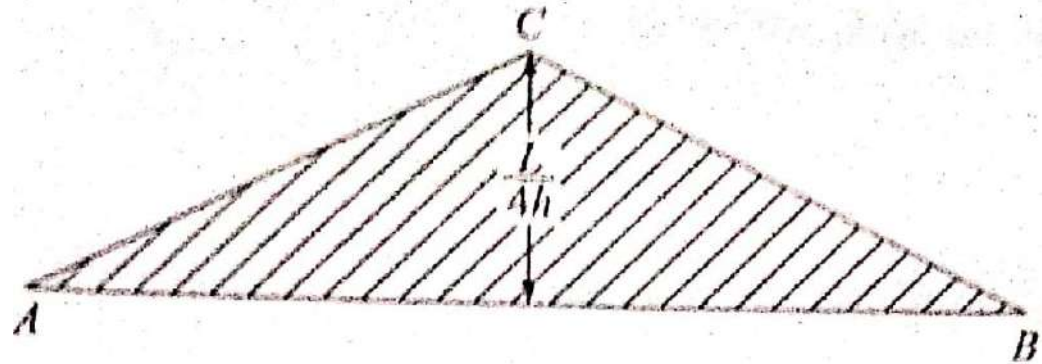

Figure 2: ILD for H
- Hence, ILD for H is a triangle with its maximum ordinate equal to $\frac{L}{4h}$ at hinge C as shown in Figure 2.